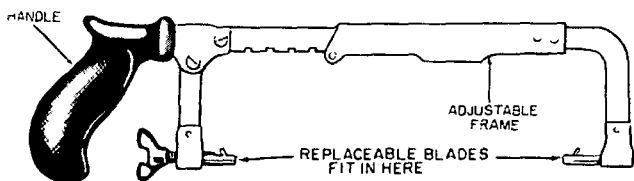

Figure 10. Hacksaw.
- (d) *Hacksaw.* The hacksaw (fig. 10) is used for cutting metal. It consists of a blade and frame which has a handle at one end. The frame can be adjusted to hold blades of various lengths and